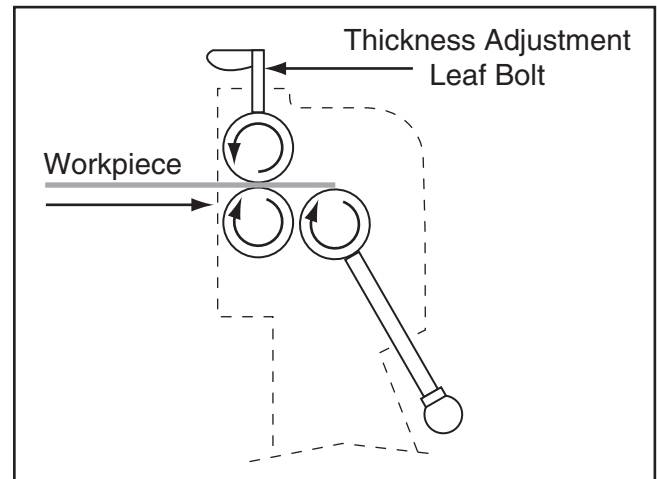

Figure 24. Workpiece positioned to start the curve.
2. Insert the workpiece between the upper and lower rollers and just over the rear roller, as illustrated in **Figure 24**, then snug the thickness adjustment leaf bolts down to secure the workpiece. Make sure you tighten the leaf bolts the same amount.